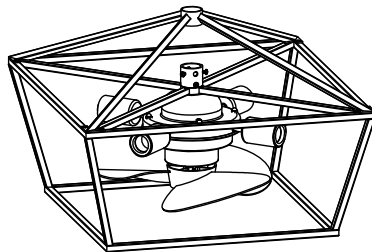

Figure 1
- Users can choose the appearance of Figure 1 or figure 2 to install the product according to their preference